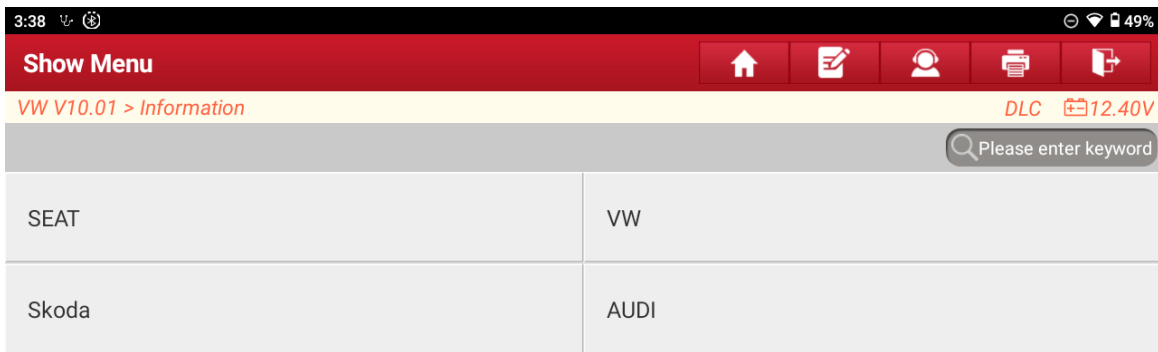

Figure 26
25. Choose [VW], as shown in Figure 26.